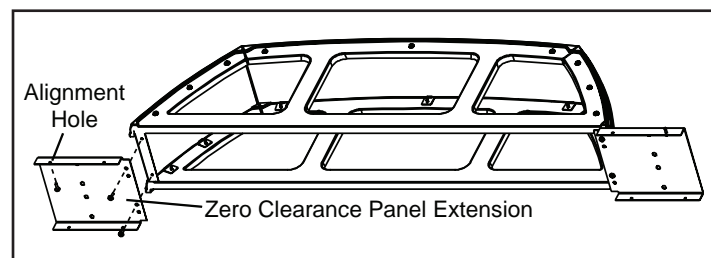

Figure 20.3
6. Attach the zero clearance panel extensions. **Figure 20.3**